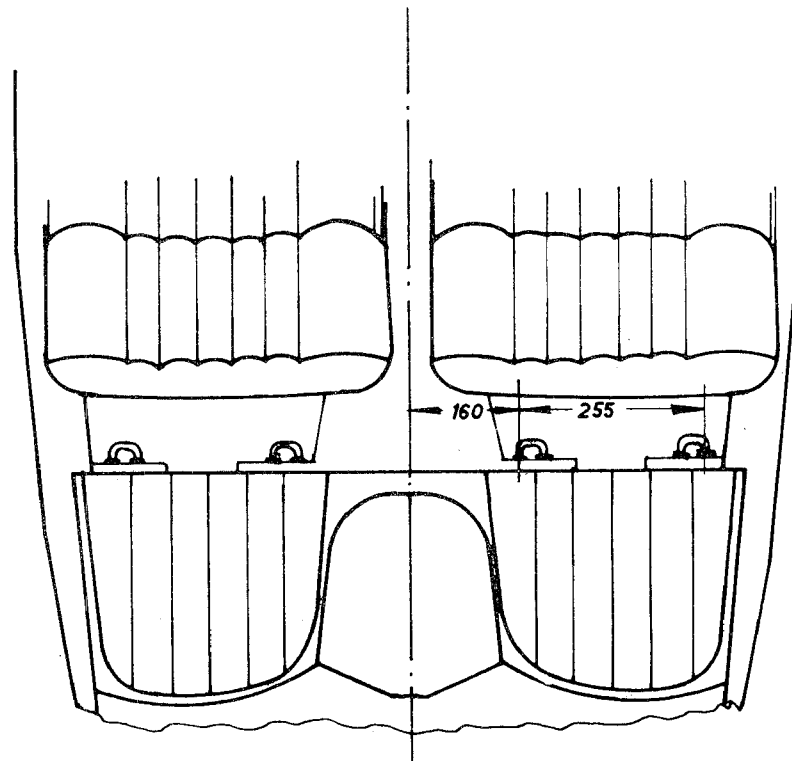

Fig. 8
1. Mark the position of the 4 shackles according to sketch and trace through the covering by means of an awl (see Fig. 8).